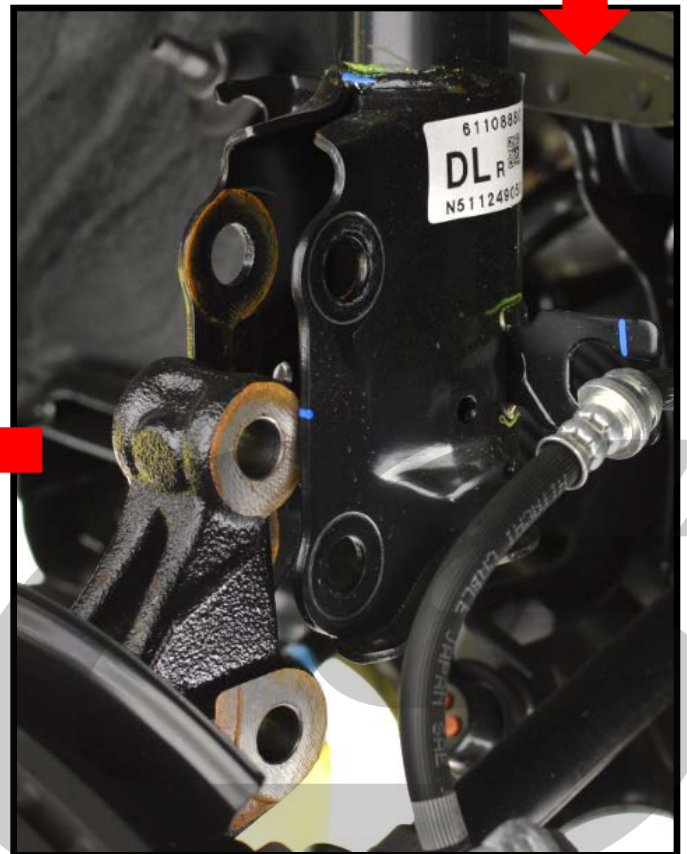

Figure 1e
- e) With the bolts removed the lower suspension components will slide out of the strut. Let them hang in place. If needed use a large flathead screwdriver to pry the upright out of the strut. **Shown in Figure 1e.**